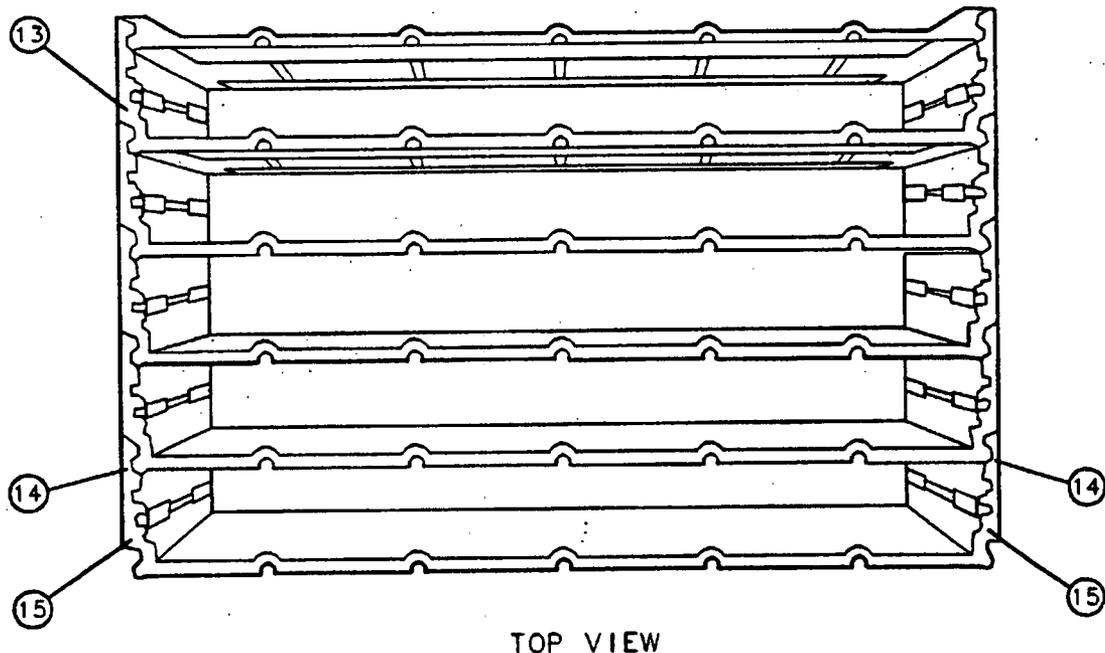

Figure 3-31. IF Extrusion Assembly Replacement
While separating sections of the IF extrusion, protect the top and bottom finished surfaces of each extrusion section (13) from damage. See Figure 3-31.
21. Position the assembly so that the joints (14) of the extrusion section to be removed extend out over the edge of the work surface.
When replacing sections of the IF extrusion, protect the top and bottom finished surfaces (13) of the extrusion sections from damage. See Figure 3-31.